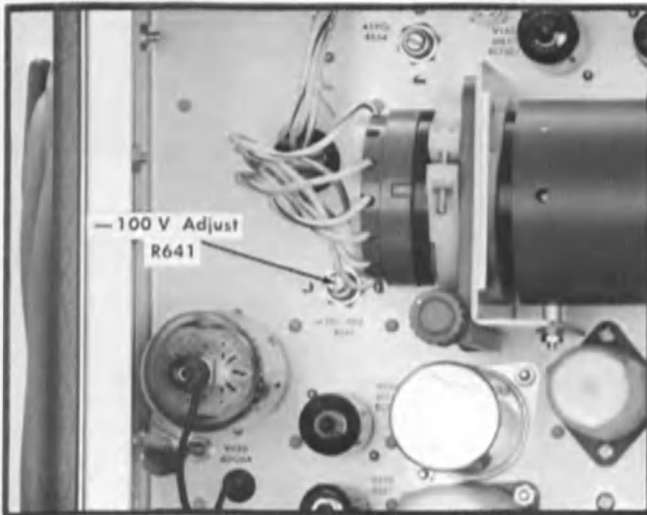

Fig. 6-5. Location of -100 volt adjustment (left side of instrument).
- d. Adjust R641 for a voltmeter reading of -100 volts. -100 ADJ. R641 is accessible on the left side of the instrument (see Fig. 6-5).
- b. Connect the meter positive lead to the 12.6 volt test point (Fig. 6-5), and the negative lead to chassis ground.
- b. Connect the positive meter lead to the +100 volt test point (Fig. 6-5).
- Connect the meter lead to the +250-volt test point (Fig. 6-5).
- Connect the negative meter lead to the -3000 volt test point (Fig. 6-5), and the positive meter lead to chassis ground.